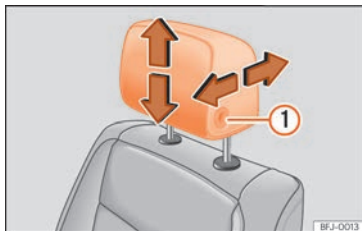
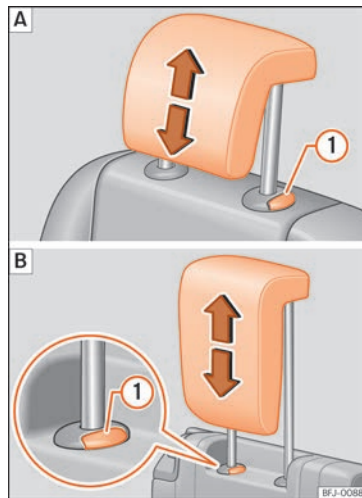

Fig. 103 Front seat: headrest adjustment.
Fig. 104 Adjusting the rear headrests: **A** Second row of seats, **B** third row of seats.
- Move the head restraint forward or back in the direction of the corresponding arrow while pressing the button »» Fig. 103 ①.
- Move the headrest up or down in the direction of the corresponding arrow. Regarding the rear headrest, to both raise and lower, press the button »» Fig. 103 ①; for the rear headrests it is only necessary to press the button »» Fig. 104 ① to lower them »» ⚠ in Introduction on page 128.